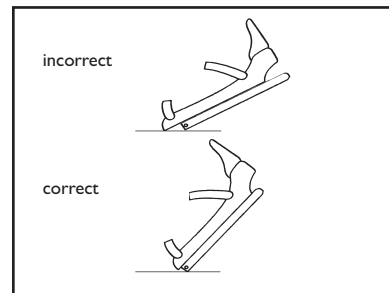

FIGURE 11
3.) Binding must be flat and centered on the Slider Track to prevent bending of the Slider Track as well as providing a free pivot of the Slider Track and binding in the touring/walking mode. (See Figure 11)